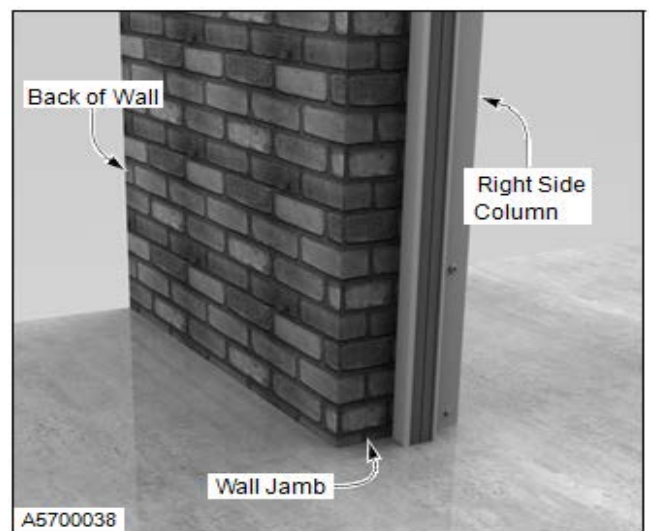
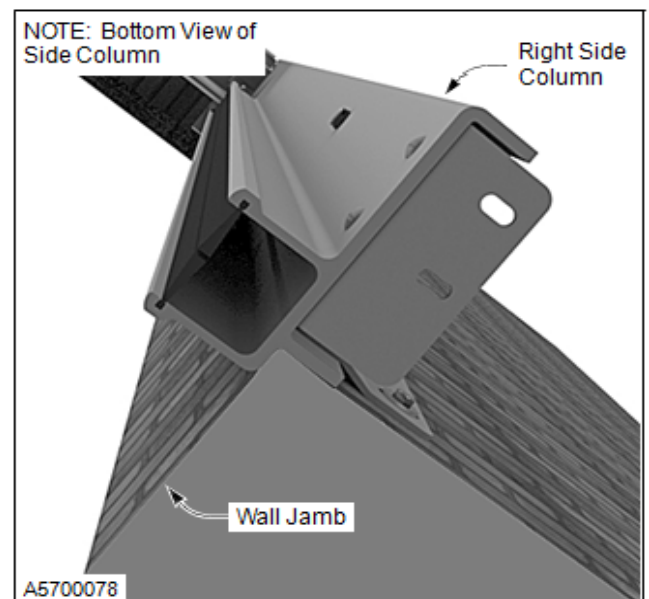

Figure 9
Figure 10
3. Once the side column is set plumb and square, bar clamp it to the wall. (See Figure 9 and Figure 10)